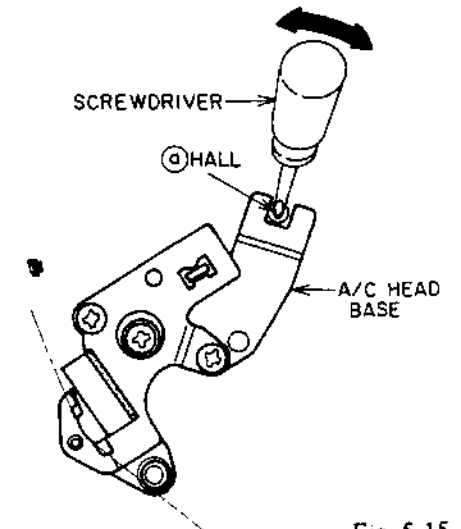

Fig. 5-15
- 5) Insert a sharp flat head (—) screwdriver into the A/C HEAD BASE and (a) hole as shown in Fig.5-15.
- 6) Move the A/C HEAD BASE by moving a screwdriver in the direction of the arrow as shown in Fig.5-15 to obtain the maximum RF output, then tighten the (c) screw.